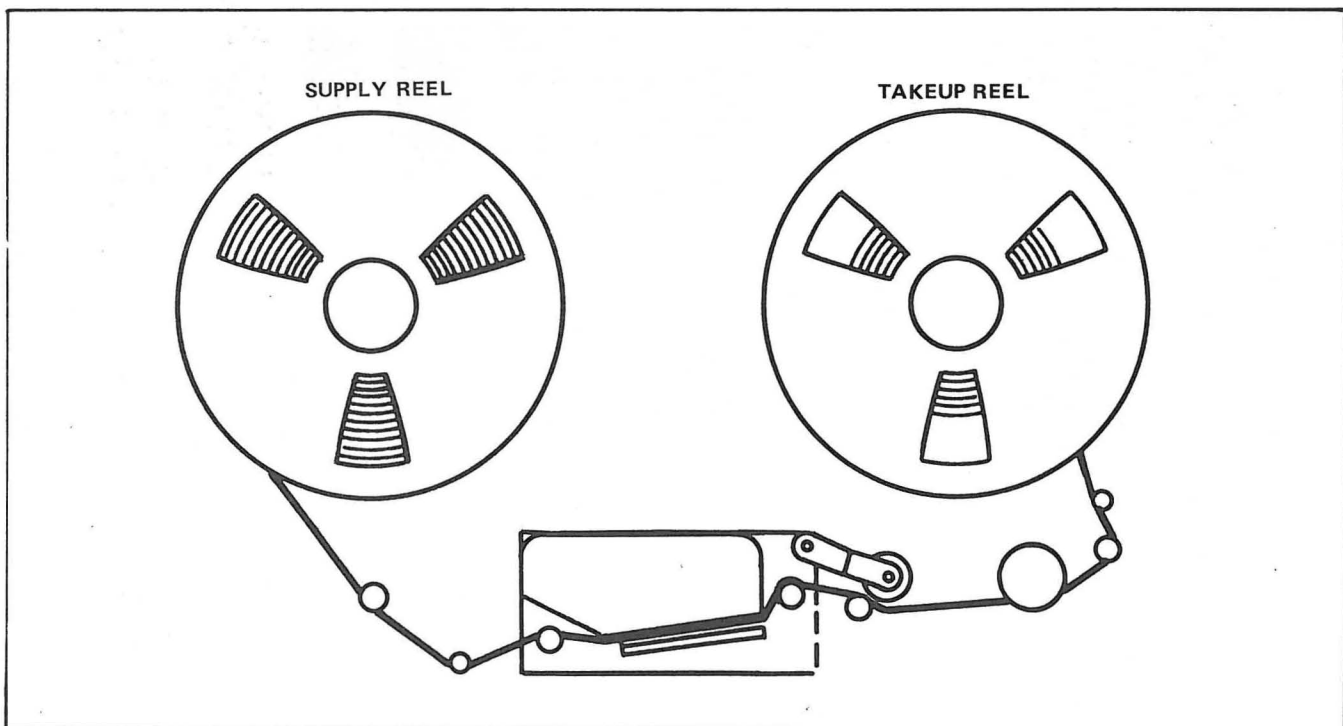

Figure 3-2. Tape Threading Path
5. Thread a bulk-erased reel of tape onto the transport (Figure 3-2), close head gate, and
4. Move end-of-tape tension arm counter-clockwise to the latched position for ease of tape threading and to remove power from the reel motors. Thread the master tape onto the transport (Figure 3-2), close the head gate, and then release the end-of-tape tension arm from the latched position.
3. Thread the tape to be reproduced onto the transport as shown in Figure 3-2, and close the head gate.